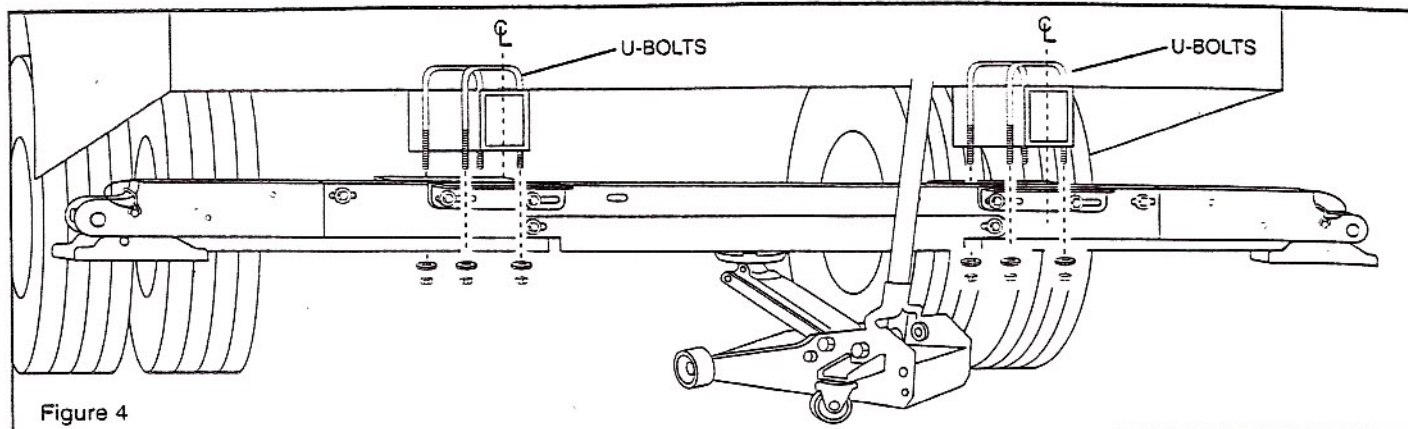

Figure 4
Push the floor jack with leveling jack assembly in towards the rear of the motorhome. Pump the floor jack up until the top of the leveling jack assembly is touching the motorhome frame. At the same time make sure the holes of the small angle brackets are aligned on either side of their respective vehicle frames as shown in figure 4. It may be necessary to slide the small angle brackets from side to side to position the holes correctly.
**STEP 4.** Install four U-bolts over the vehicle frame as shown in figure 4 making sure the bolts fit through the corresponding holes in the small angle brackets. Install the washers and locknuts but do not tighten.